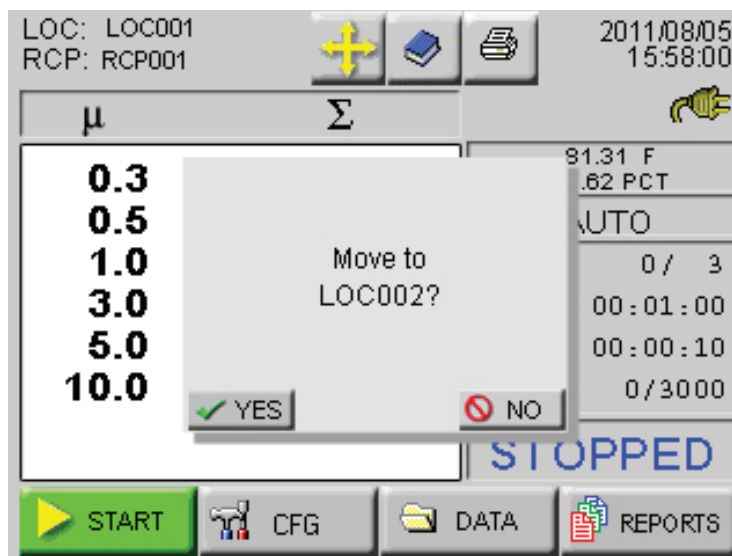

Figure 4-59 Auto Increment Prompt
- The user is prompted to move to the next location after the programmed number of cycle. See Figure 4-59.